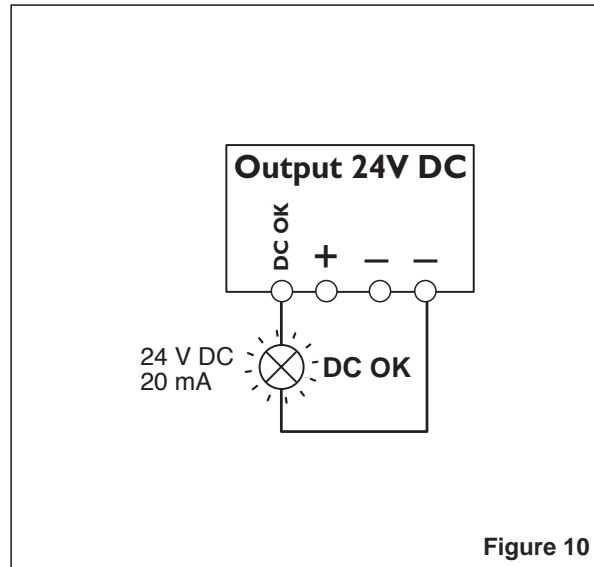

Figure 10
#### Active signal output (③ , Figure 10)